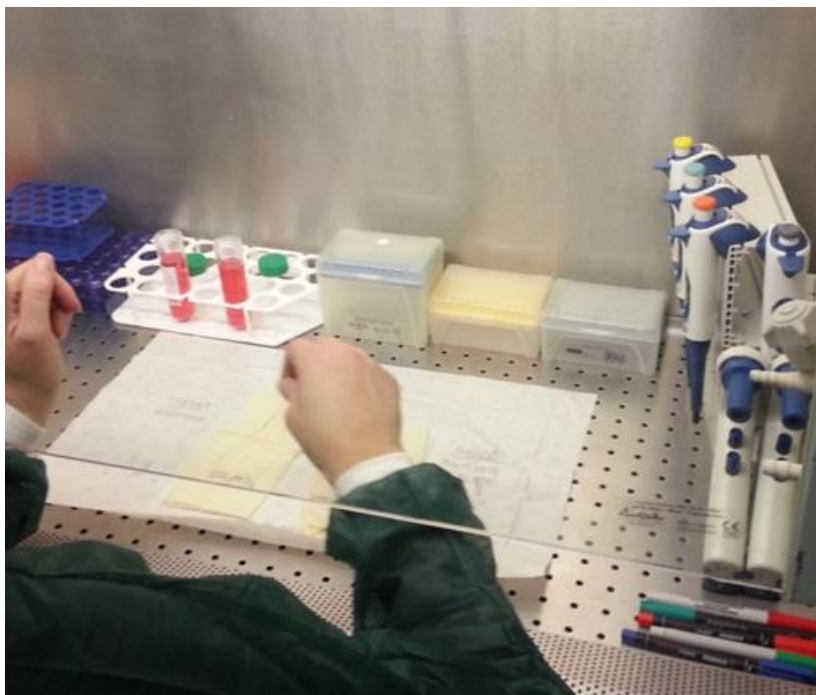

Figure 8
- Leave the sterile packaging paper of the gloves on the workplace (Fig.8).
- Extract the sterile components from **envelope 1** (Fig.8).